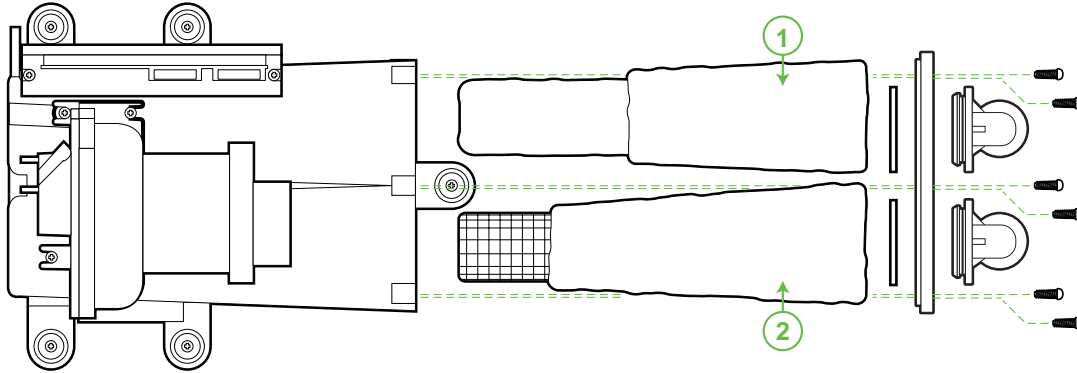

Figure 5-12. Muffler/Filter Core Assembly
4. Referring to Figure 5-12, remove the six (6) screws holding the end caps on the muffler tube and remove the caps and elbows as an assembly.
6. Referring to Figure 5-12, insert the element with the filter into the tube using a clockwise insertion motion.